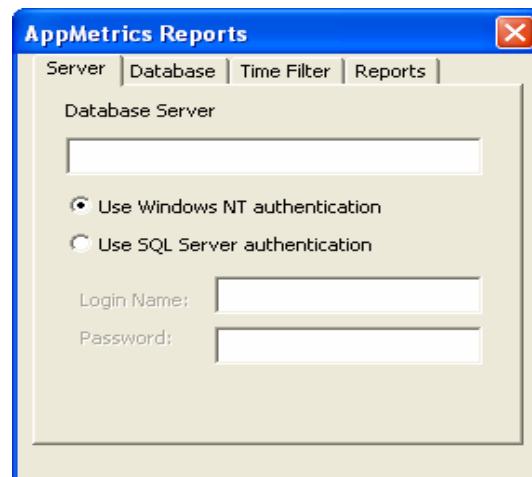

Figure 1
2. First input the machine name of your Instructor’s AppMetrics Manager in the **AppMetrics Manager Machine** field of the **Manager** tab (see Figure 1).